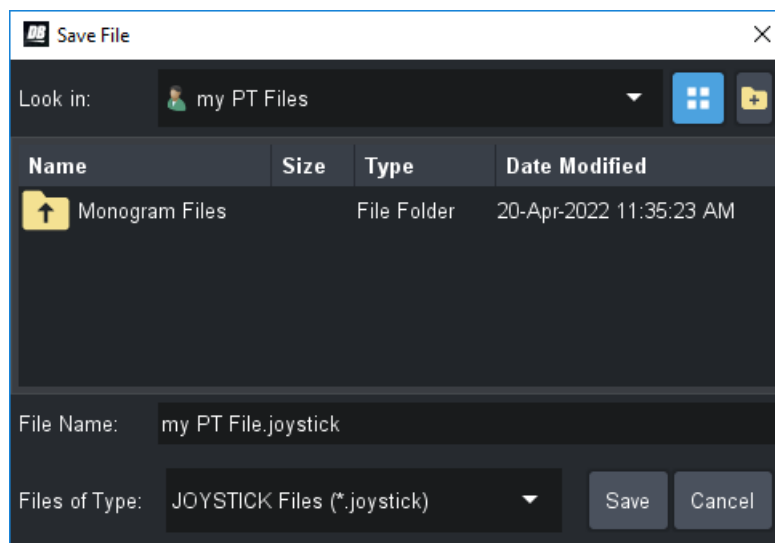

Figure 53 - Specifying a File Name for a DashBoard .joystick File
5. In the **File Name** box, type a name for the file (Figure 53).